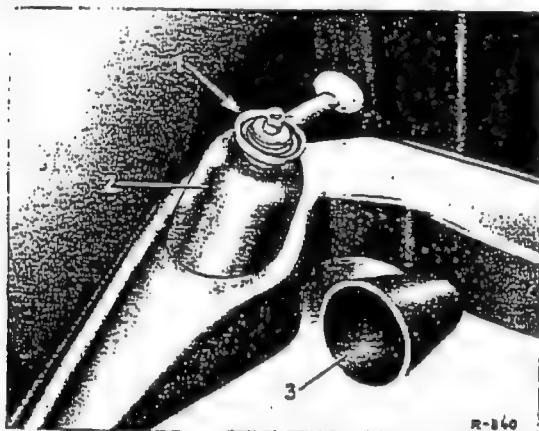

Fig. 32-3/1
1. Working from the trunk compartment, remove the upper shock-absorber suspension (1). Remove the hexagon nuts, the cup, and the upper rubber ring (Fig. 32-3/1).